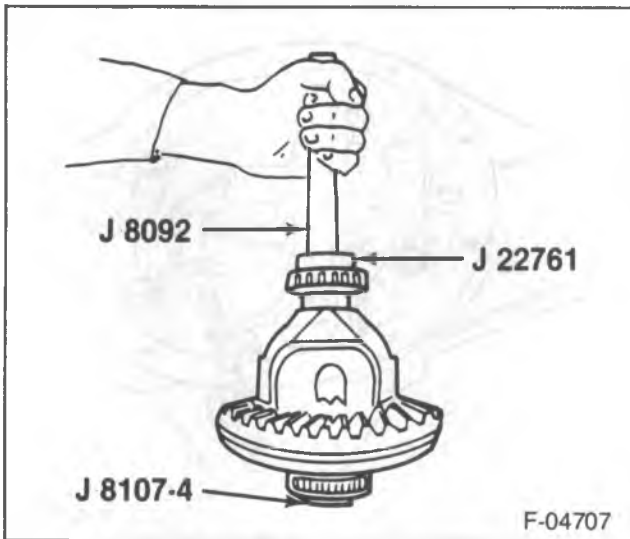

Figure 19—Installing the Side Bearing
7. Differential side bearings (8) using J 22761, J 8107-4 and J 8092 (figure 19).
8. Differential case (24) to the axle housing. Refer to "Side Bearing Preload Adjustment" in this section.